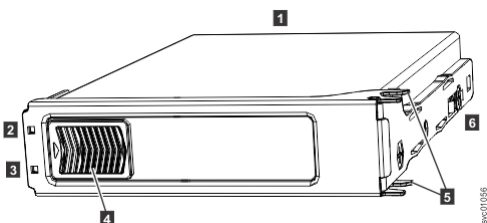

Figure 144. LEDs on a drive assembly
Figure 144 on page 121 shows the components of a drive assembly. Each drive has an online indicator (2) and fault indicator (3).